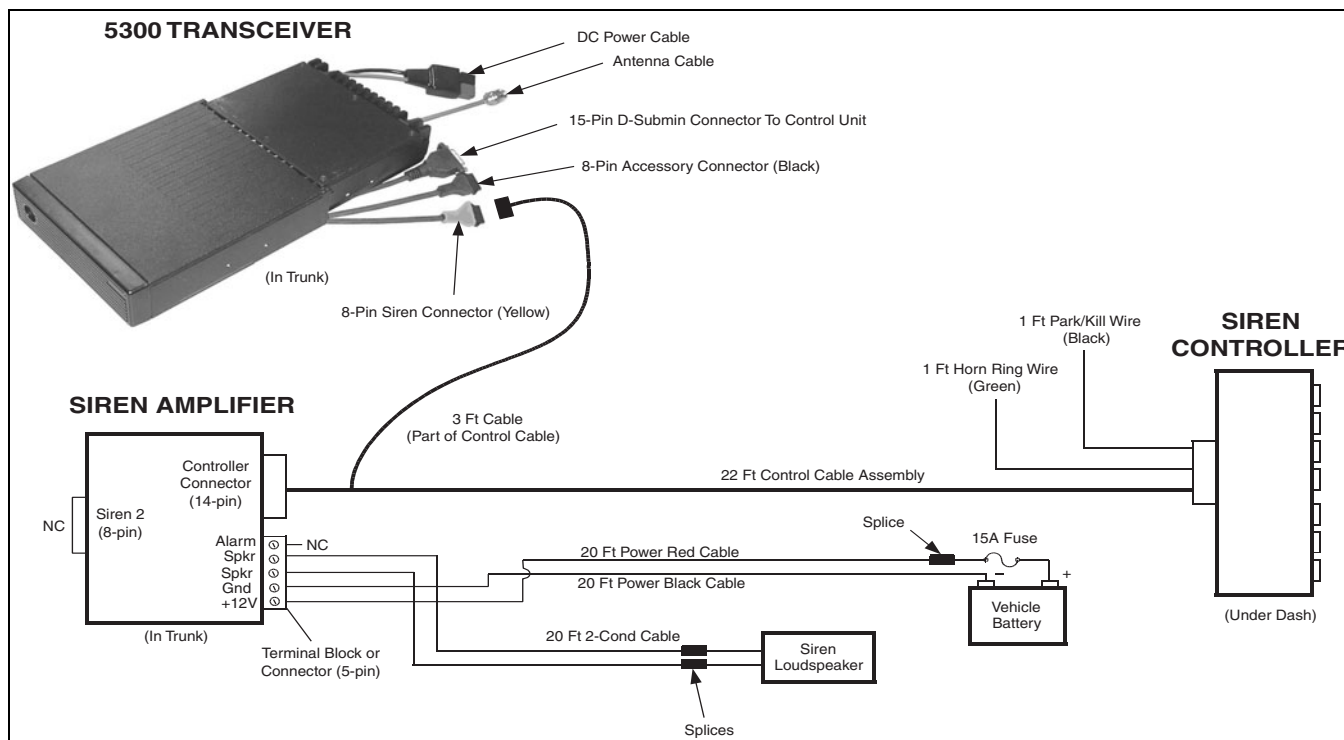

Figure 2-12 Siren Installation Diagram
Refer to Figure 2-12 and proceed as follows:
4. Connect the included 22-ft control cable assembly between the amplifier, transceiver, and controller as shown in Figure 2-12. Be sure to connect it to the